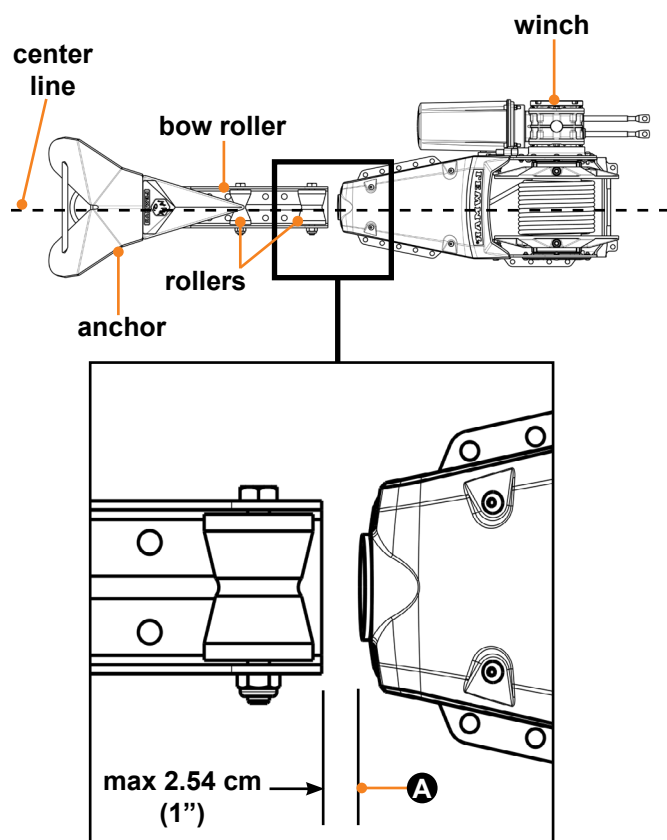

Fig.2
4. Make sure the assemblies are in line and parallel with each other (Fig.2).
5. Make sure the center line of the anchor shank and bow roller rollers align with the center line of the winch housing and bow roller (Fig.2).